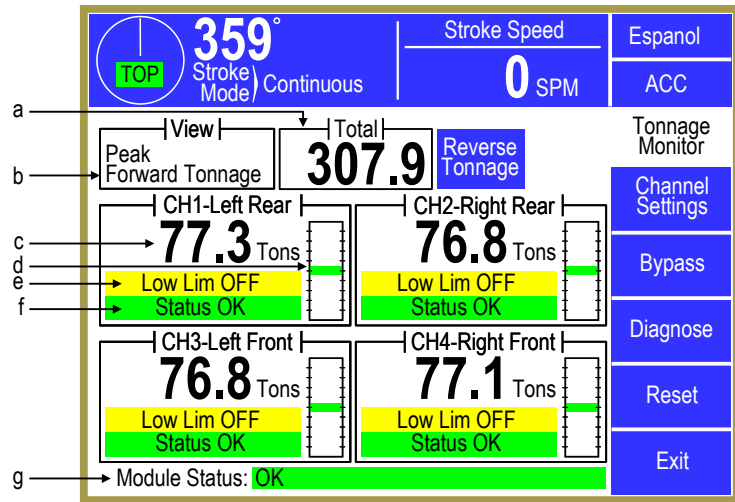
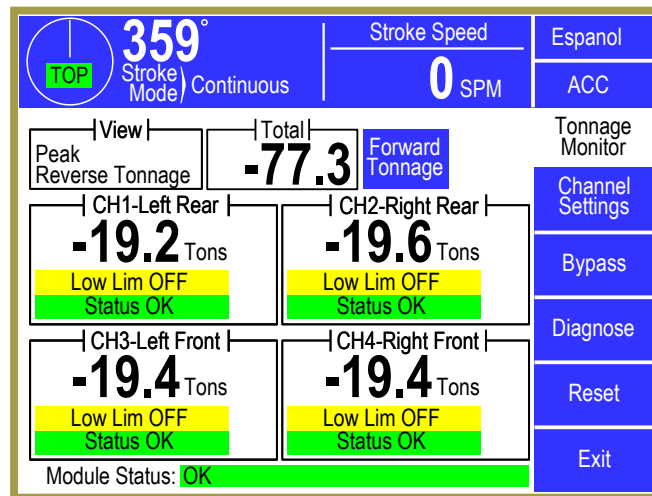

Figure 4: Tonnage Monitor Main Screen Showing Peak Forward Tonnage
Figure 5: Tonnage Monitor Main Screen Showing Reverse Tonnage
Peak forward tonnage and peak reverse tonnage can be selected for viewing. Figure 4 is an example of a peak forward tonnage view, and Figure 5 shows a peak reverse tonnage view. Two channel screens look much the same but have no channel three or channel four information sections.
In Figure 4, the various parts of the screen are:
- c) **Tonnage Reading** The numeric tonnage reading for this channel and view. In the example screen of Figure 4, this is the peak forward tonnage for channel 1.
- Reverse Tonnage *Softkey*** This softkey changes the tonnages displayed to peak reverse tonnage (see Figure 5: Tonnage Monitor Main Screen Showing Reverse Tonnage). This key is only present when viewing peak forward tonnage. See section 3.2.1 on page 14 for more information.
Figure 5 shows a four channel screen when viewing reverse tonnages. Notice that there are no limit bars when viewing reverse tonnage as there is only one reverse limit for each channel. The **Reverse Tonnage** softkey has also changed to **Forward Tonnage** to allow switching back to the forward tonnage view.
A number of error conditions can be reported by the tonnage monitor. Some of these conditions are reported in the “Module Status” area (see “a” in Figure 4) and some are reported for a particular channel in the channel status area (see “b” in Figure 4).
The channel settings screen can be selected by pressing the **Channel Settings** softkey in the tonnage monitor main screen (See Figure 4 on page 12). It can also be selected by touching the screen inside any of the channel information boxes. In that case, the channel settings screen will automatically display the settings for that particular channel.
The bypass settings screen can be selected by pressing the **Bypass** softkey in the tonnage monitor main screen (See Figure 4 on page 12).